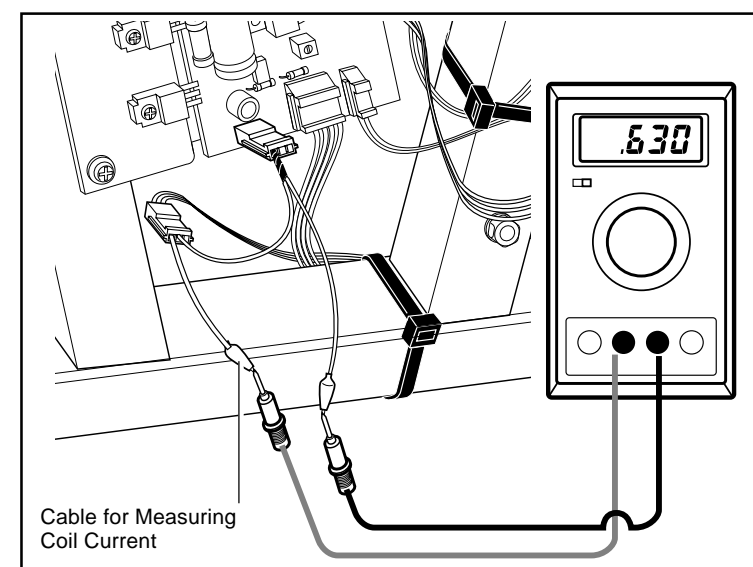

Fig. 2
1. Connect the cables for measuring coil current between the female connector of the solenoid coil and the male connector (CN-1) on the power supply board, and then connect the cables to an ammeter. (Fig. 2)